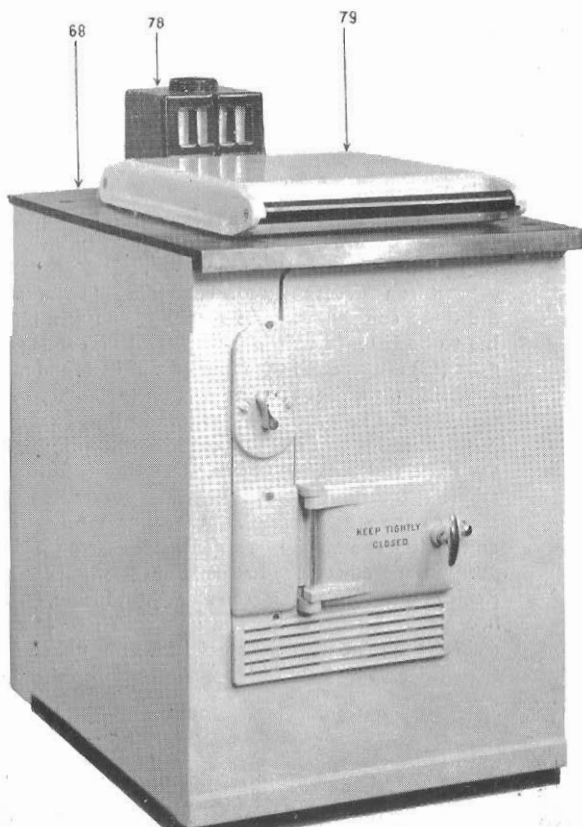

Fig. 20
Place the base plate (55) on the floor and screw in the four corner stay rods (56). Assemble the fire unit, which consists of ashpit (57), the inner barrel supporting ring (58), and the cast iron skirt (59), but if a J20 simmering oven is being fitted, the cast iron skirt is omitted. Four $\frac{1}{2}$ " $\times$ $2\frac{3}{8}$ " bolts and washers are used for bolting the three component parts together, and $\frac{1}{2}$ " $\times$ $1\frac{1}{2}$ " bolts when the ashpit only has to be fastened to the inner barrel supporting ring. The two halves of the skirt (59) are screwed with four $\frac{3}{8}$ " $\times$ 2" bolts and nuts. Place the front plate (60) in position, support the fire unit on temporary blocks in position on the base plate, fix the supporting angles (61) to the fire unit, place the back plate (62) in position, and secure the supporting angles (61) loosely with $\frac{1}{2}$ " nuts and bolts to the front and back plates after inserting the asbestos washers (63). Slide the ashpit tunnel (64) into position and secure loosely with $\frac{5}{16}$ " $\times$ $6\frac{3}{8}$ " bolts (65), asbestos and steel washers. Remove temporary support from beneath the fire unit. Place the inner barrel (66), side plates (67) and top plate (68—Fig. 20) in position and adjust the fire unit until it is level and flush with the top plate. Remove top plate and tighten all nuts and bolts, fit the hot air duct (69), bolt the flue manifold (70) to the fire unit with two $\frac{3}{8}$ " $\times$ $1\frac{1}{2}$ " bolts, nuts and washers, making the joint with the special asbestos gasket. Fit the thermostat protector tube (73).